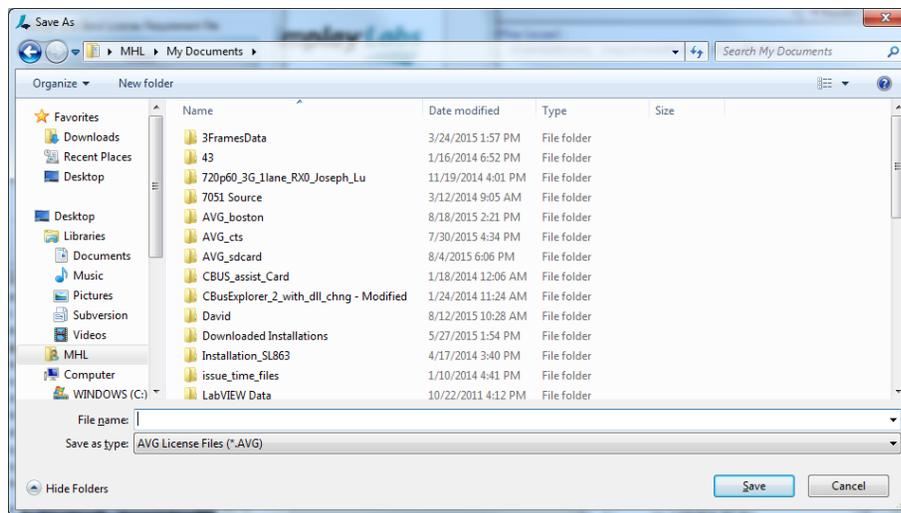

Figure 3.12. The Windows Save As Dialog
- The Windows Save as dialog pops up (Figure 3.12). Save this license requirement file to your test computer.